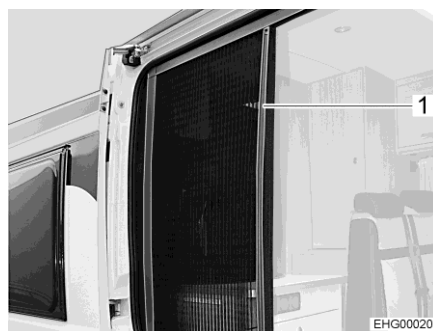

Fig. 12 Insect screen
- Pull out the insect screen completely by the bar (Fig. 12,1).
- Push the insect screen into its initial position by the bar (Fig. 12,1).